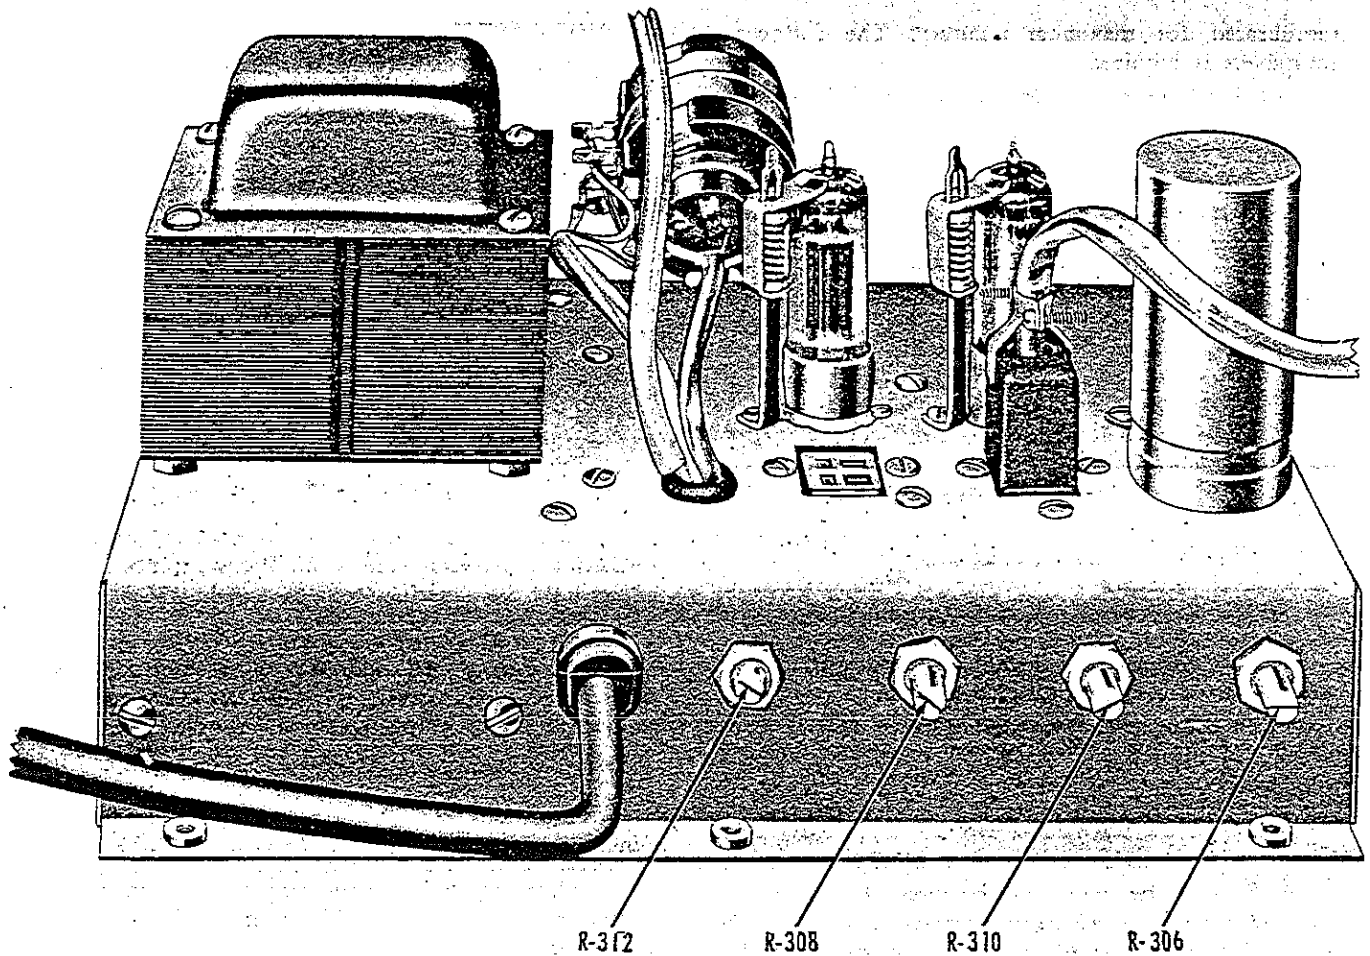

Figure VI-3 Power Supply chassis showing Q voltmeter calibration adjustments
a. These tubes are located on the power supply chassis (Figure VI-3) and are easily removed for replacement. No adjustments are required when any of these tubes are replaced.
d. To provide maximum control for the Q ZERO potentiometer, set the Q ZERO control to its mid-position and approximately zero the CIRCUIT Q meter with R-312 (Figure VI-3).
g. Apply successively 5, 4, 3, 2, and 1 volt, adjusting R-310 (Figure VI-3) to obtain the best overall accuracy of Q readings which should be 250, 200, 150, 100, and 50, respectively.
b. With the lever key depressed to the LOW Q position, successively apply 1.2, 1.0, 0.8, 0.6, 0.4, and 0.2 volts, adjusting R-308 (Figure VI-3) to obtain the best overall accuracy of LOW Q readings which should be 60, 50, 40, 30, 20, and 10, respectively.
k. With the lever key still in the  $\Delta$ Q position, apply successively 3.2, 3.4, 3.6, 3.8, and 4.0 volts, adjusting R-306 (Figure VI-3) to obtain the best overall accuracy of  $\Delta$ Q readings which should be 50, 40, 30, 20, 10, and 0, respectively.